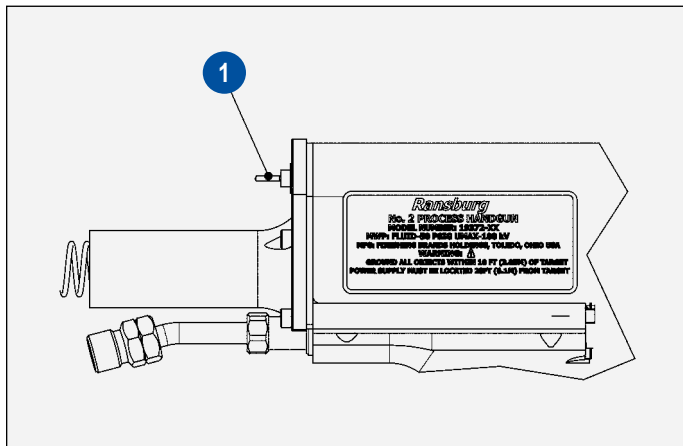

Figure 11: “ON - OFF” Switch Location
3. Insure the “ON-OFF” switch is in the off position. (See figure 11)